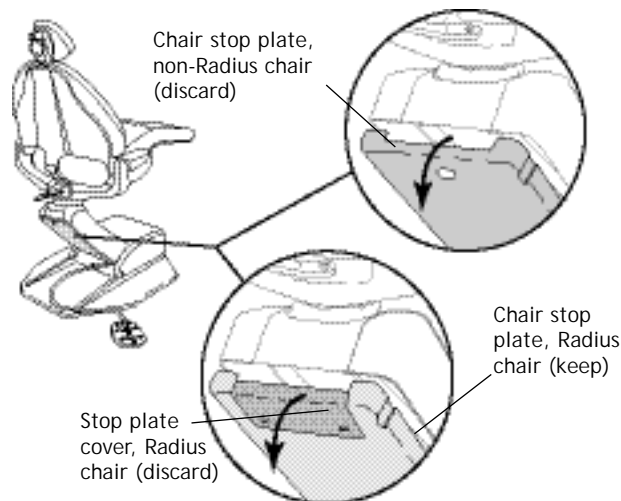

Figure 3
1. Remove the chair stop plate (see Figure 3).